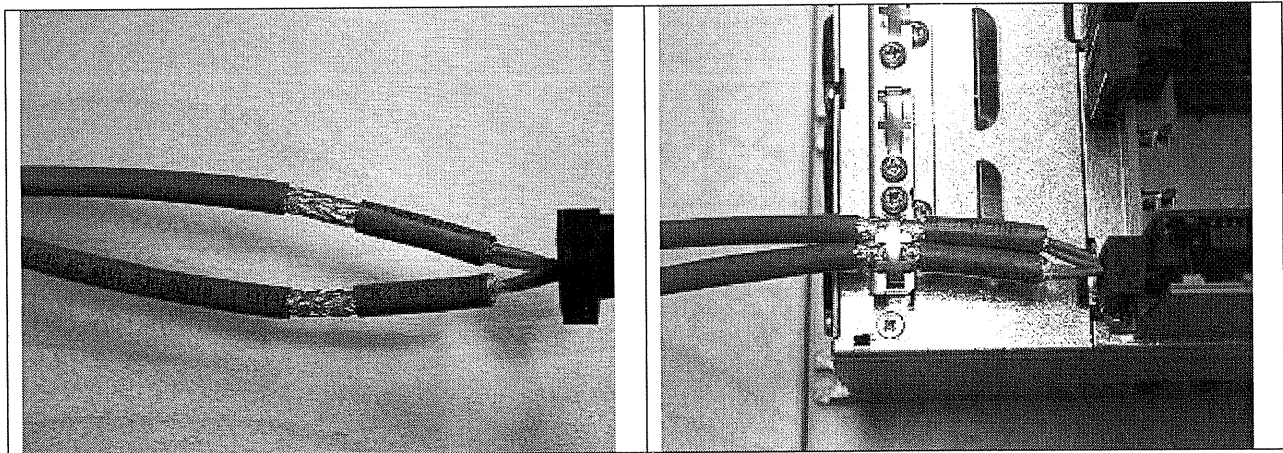

Figure 4-11. Grounding the Profibus Cable
4. Strip the Profibus cable at such a distance from the terminal that you can fix it to the frame with the grounding clamp. See Figure 4-11.